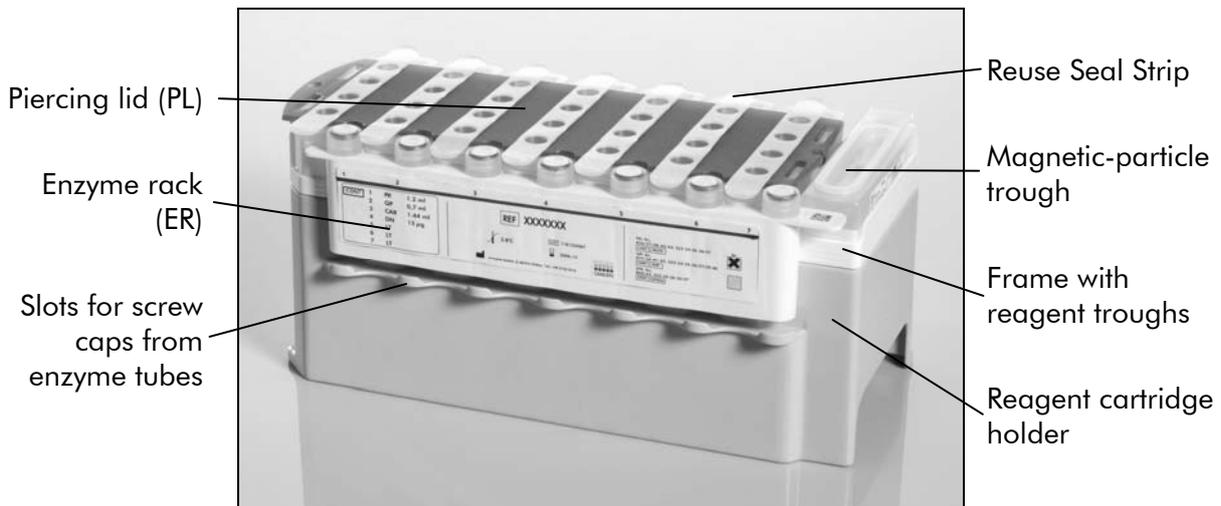

Figure 3. QIASymphony reagent cartridge (RC). The reagent cartridge (RC) contains all reagents required for the purification procedure.
Reagents for purification of nucleic acids are contained in an innovative reagent cartridge (RC) (see Figure 3). Each trough of the reagent cartridge (RC) contains a particular reagent, such as magnetic particles, lysis buffer, wash buffer, or elution buffer. Partially used reagent cartridges (RC) can be reclosed with Reuse Seal Strips for later reuse, which avoids generation of waste due to leftover reagents at the end of the purification procedure.